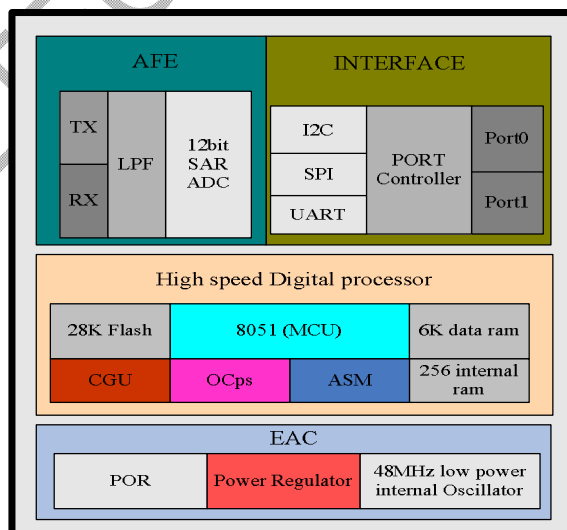

Figure 2-1 FT5x06 System Architecture Diagram
**Architectural Overview** Figure2-1 shows the overall architecture for the FT5x06.